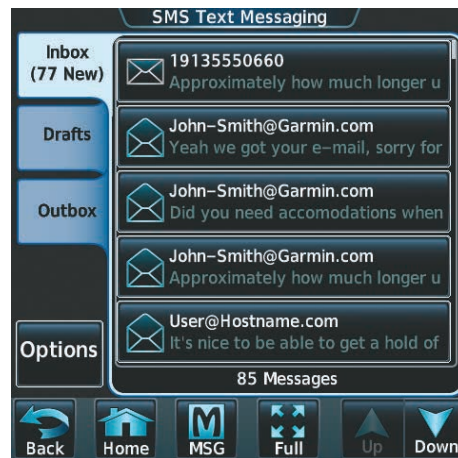
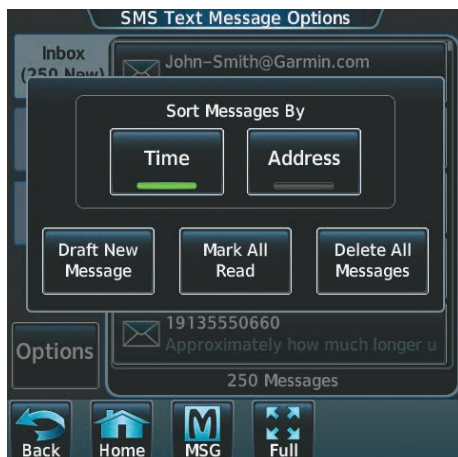

Figure 8-71 Select Options
Figure 8-72 Select Draft New Message
- 2) Touch the **Options** Button as seen in Figure 8-71. The available options are displayed as in Figure 8-72.